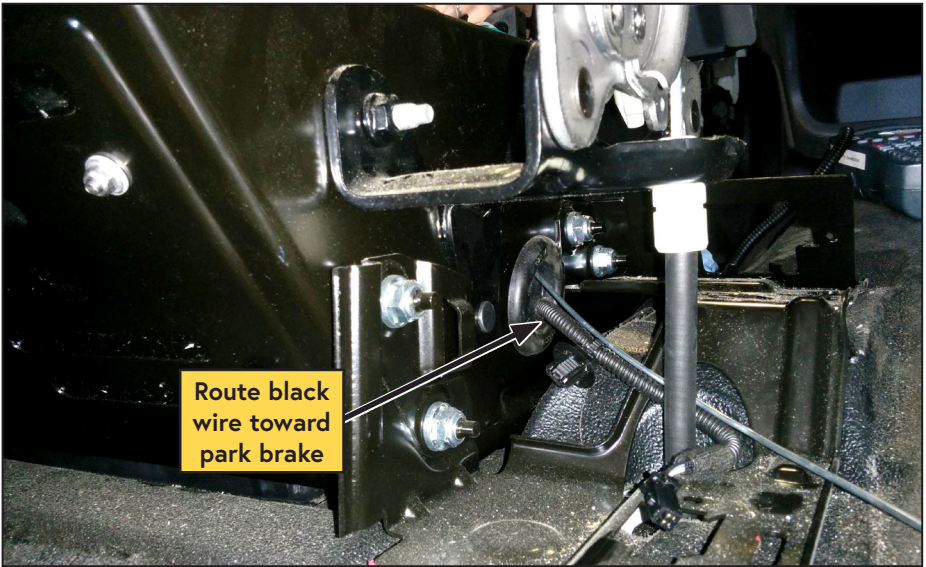

Figure 64 — Route black wire
- Feed the wire through the park brake wire harness grommet (Figure 64).